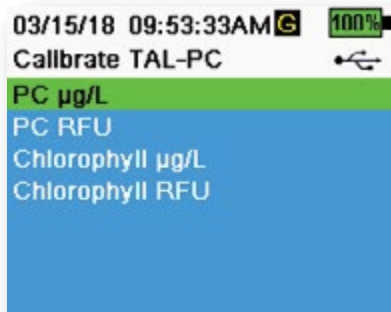

Figure 56 TAL-PC Calibration Options
3. Select the channel and units to be calibrated. Options for the TAL-PC sensor are shown in Figure 56, while options for the TAL-PE sensor are shown in Figure 57.